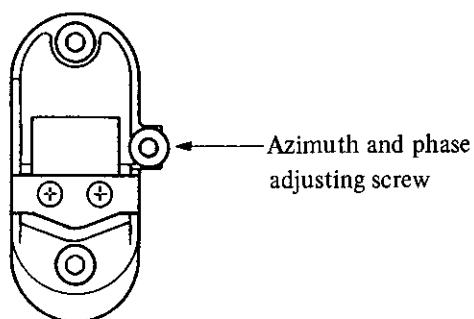

Fig. 4.11
- The Azimuth and Phase can be adjusted with the adjusting screw as shown in the Fig. 4.11 below.